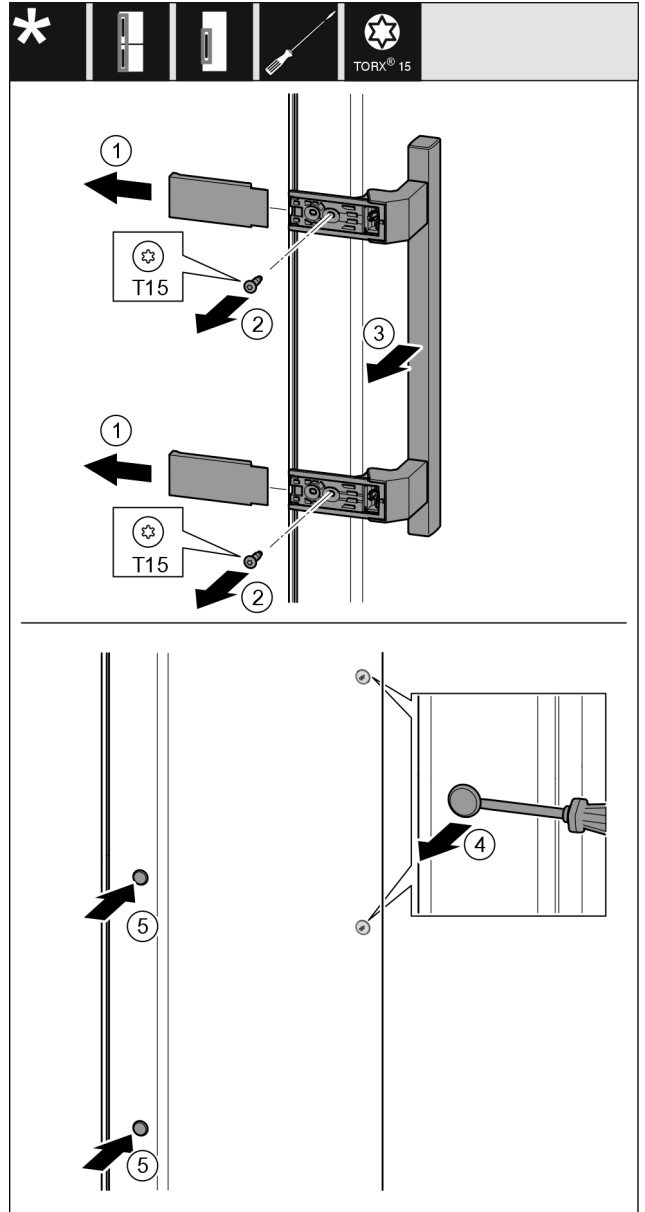

Fig. 34
- ▶ Remove the cover Fig. 34 (1).
- ▶ Unscrew screws Fig. 34 (2) with screwdriver.
- ▶ Remove the handle Fig. 34 (3).
- ▶ Use a slotted screwdriver to lift the side plug Fig. 34 (4) carefully and pull it out.
- ▶ Re-insert the plug Fig. 34 (5) on the other side.